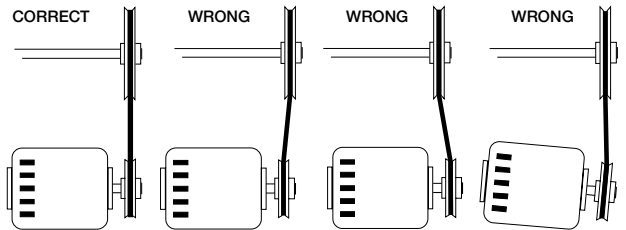

Figure 11
4. **For Belt Drive Fans:** If adjustments are made, it is very important to check the pulleys for proper alignment. Misaligned pulleys lead to excessive belt wear, vibration, noise, and power loss; Figure 11.